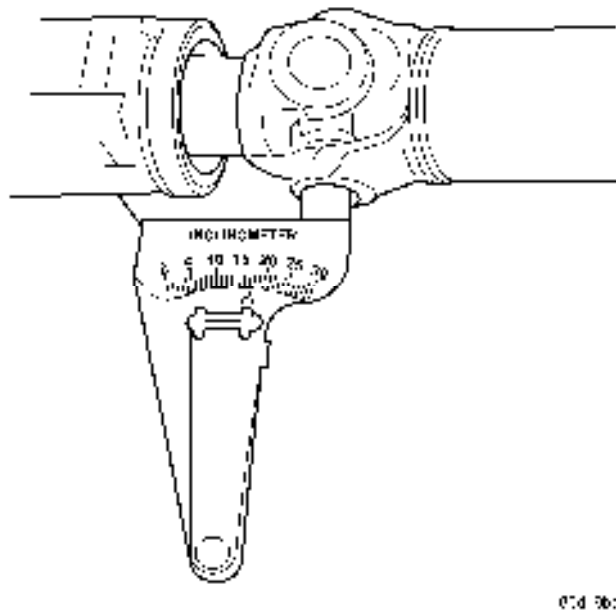

Fig. 2 PROPELLER SHAFT ANGLE
6. Rotate propeller shaft 90 degrees and place Inclinometer on yoke bearing parallel to the shaft . Center the bubble in sight glass and record measurement. This measurement can also be taken at the rear end of the shaft(Fig. 2).